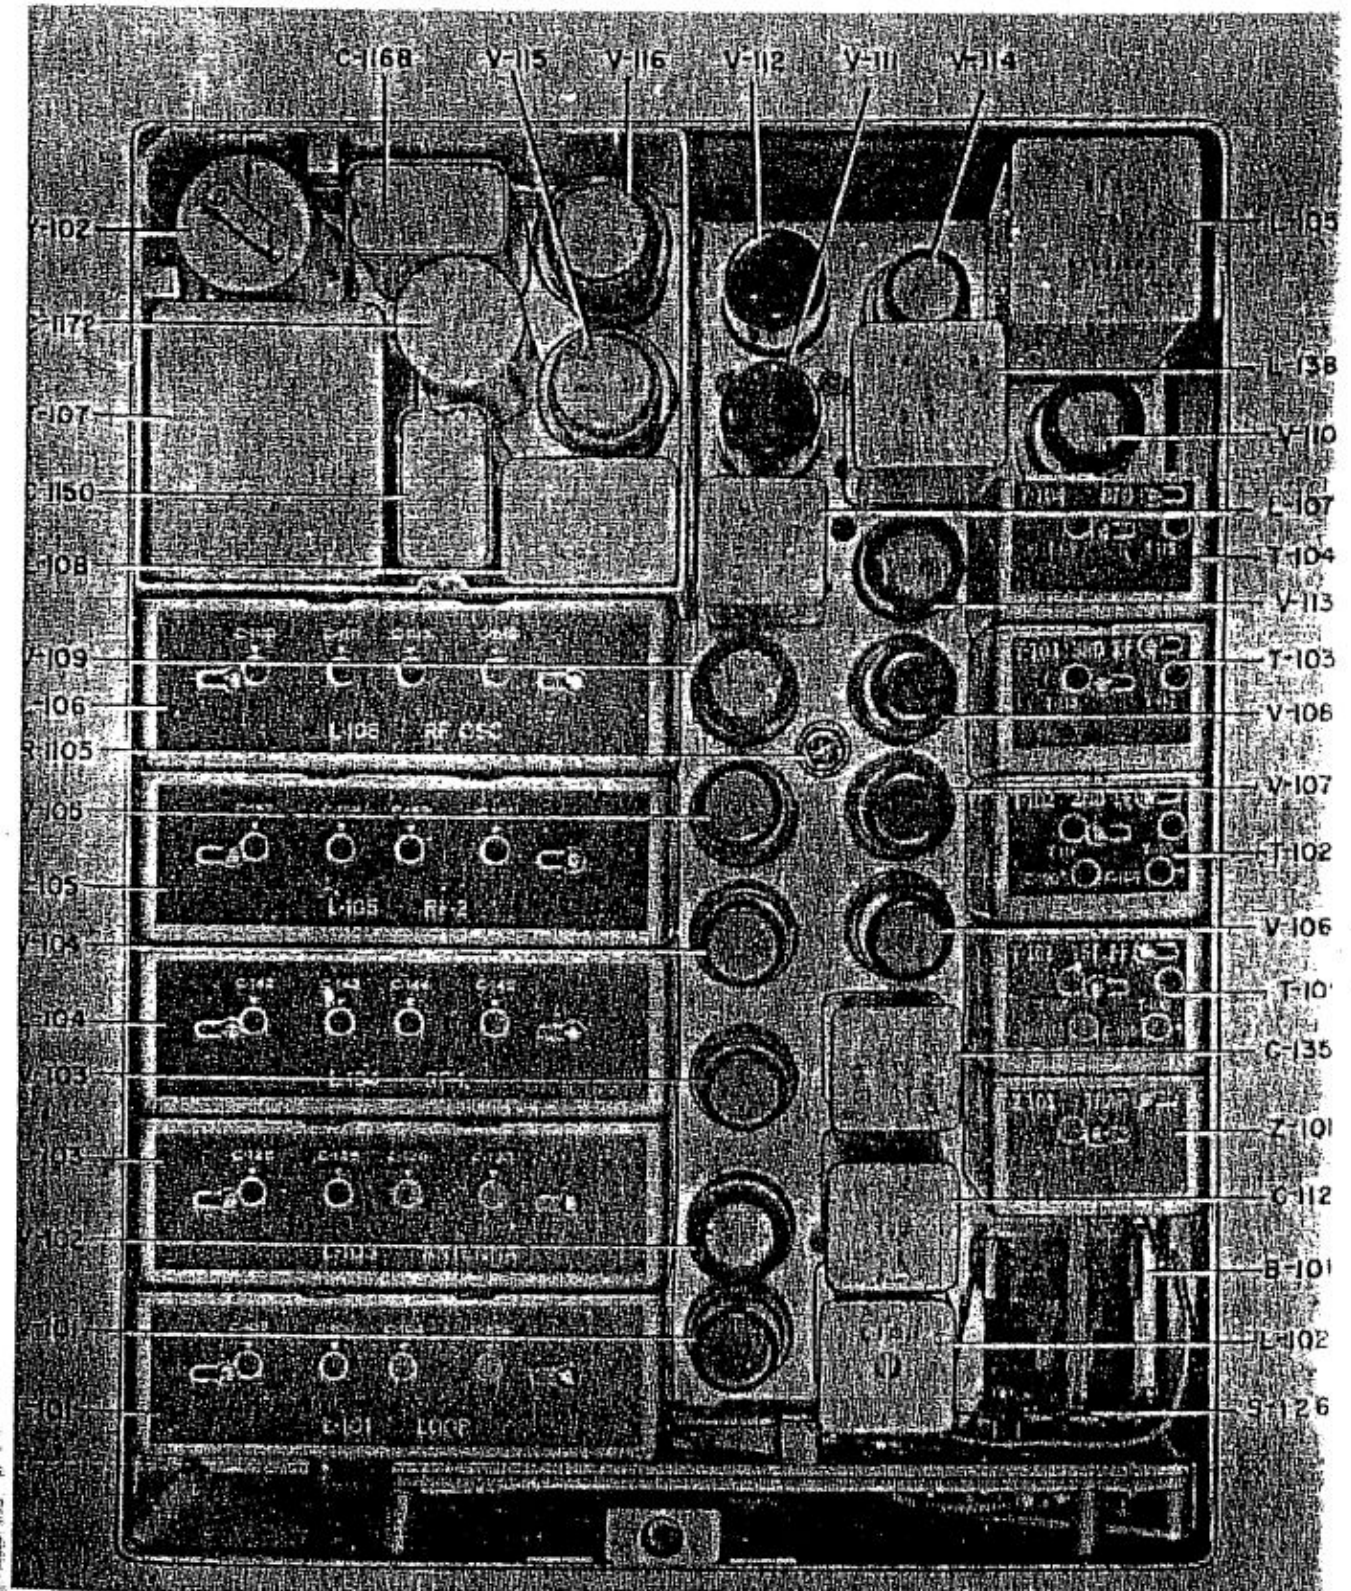

Figure 5-1. Radio Compass Unit R-101/ARN-6, Top View, Cover Removed
(2) RADIO COMPASS UNIT R-101 ARN-6 OR R-101A ARN-6. (See figures 5-1, 5-2, 5-3, 5-4, 5-5, and 5-6.)
a. To locate cause of unsatisfactory operation of the equipment when installed in the aircraft much time may be saved if a step-by-step procedure is followed as outlined in the Trouble-Shooting Chart. (See figure 5-1 or 5-2.)
(1) With the equipment turned off, check the fuse and replace if burned out.
(2) Remove the receiver from its mounting and check the DC supply at the junction board. Terminal 31 is +26.5 volts and terminal 30 is ground. If this voltage is correct, proceed as follows:
(3) Turn on the equipment at the control box and check the DC voltage from terminal 49 to ground. This voltage reading should be the same as the reading at terminal 31. If the equipment is dual control, repeat the above checks with each control box. When making the above checks, if no voltage is present or the fuse burns out, check for a possible open or grounded DC supply circuit in the control boxes or interconnecting cables. If the voltage at terminal 49 is correct, proceed as follows:
(4) Turn off the equipment. Replace the receiver in its mounting and secure with the thumb nuts. See that all cables are connected and that the control boxes are secured in their mountings. Turn on the equipment. If the fuse burns out, the fault may be traced to the receiver.
(5) When trouble has been traced to one unit, substitute an identical unit known to be in working order and recheck the equipment for proper operation.
(6) Make sure that the nondirectional antenna and lead-in are not grounded or open.